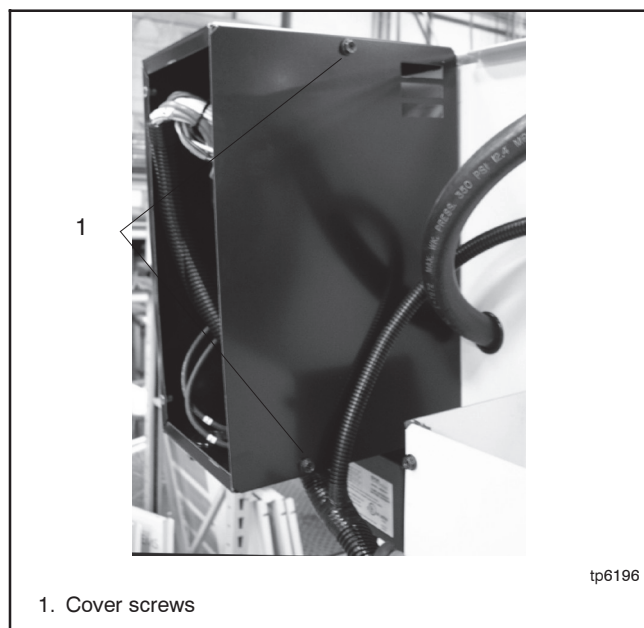

Figure 4-18 Controller Compartment Cover
- b. Remove two screws to remove the cover from the controller compartment. See Figure 4-18.